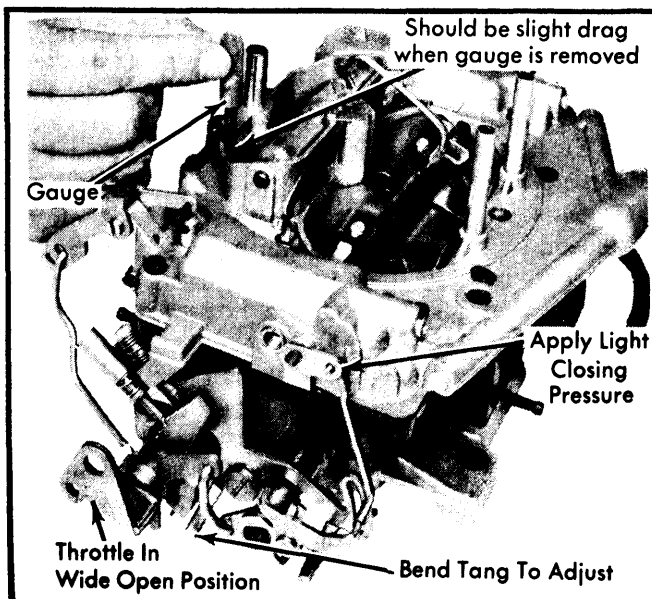

Fig. 13 Adjusting Choke Unloader
1) Open throttle valves wide open. Apply light closing pressure on fast idle cam lever to close choke valve. See Fig. 13.